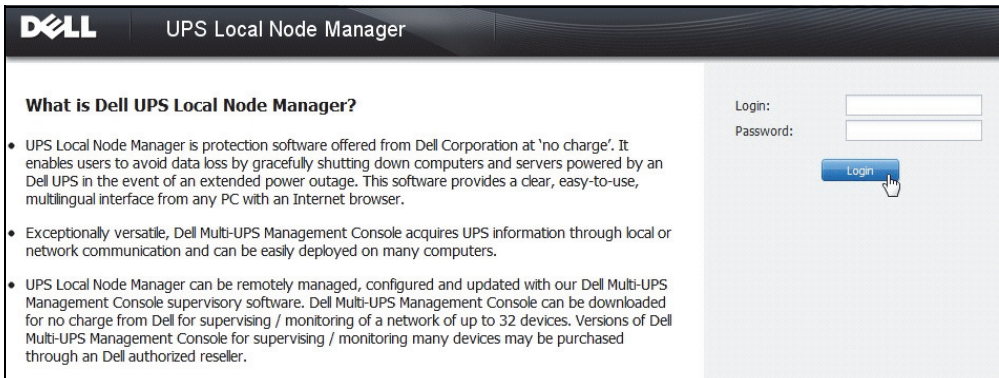

Figure 9. Login Screen
- 3 Read the application description. Type the login and password and click **Login** (see Figure 9).